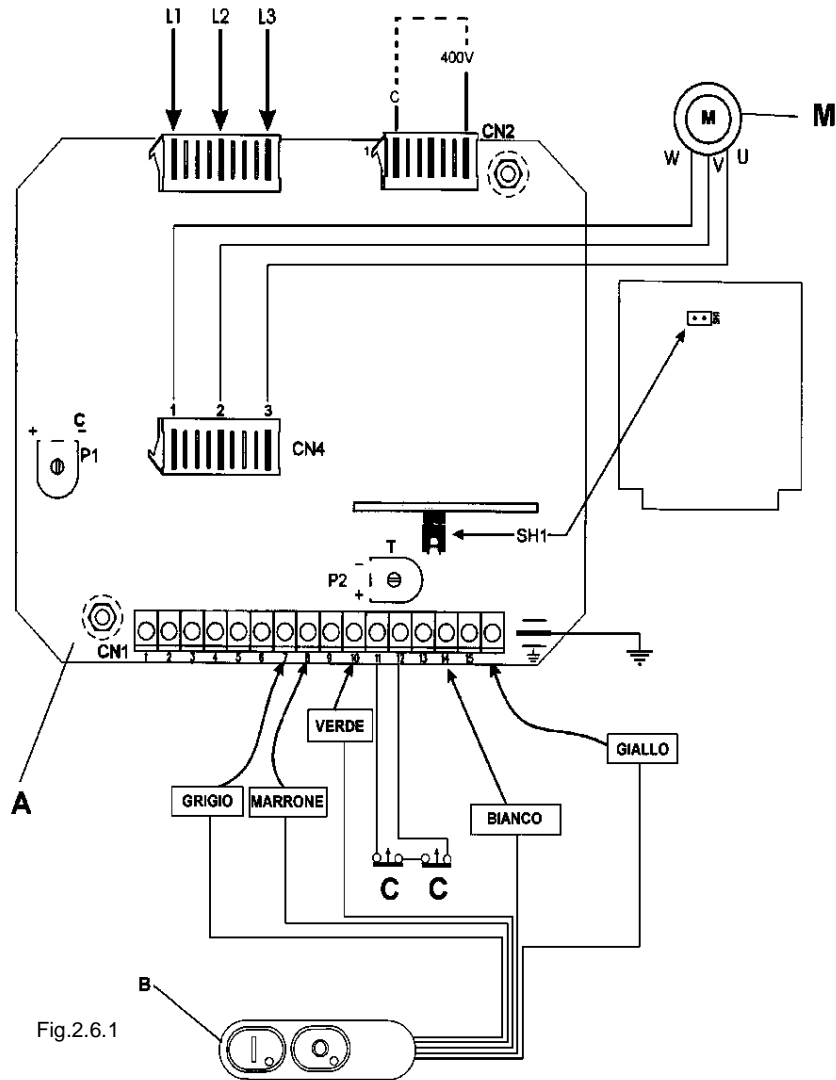

Fig.2.6.1
2.6.1 Three-phases wiring diagram at 400V (Fig. 2.6.1)